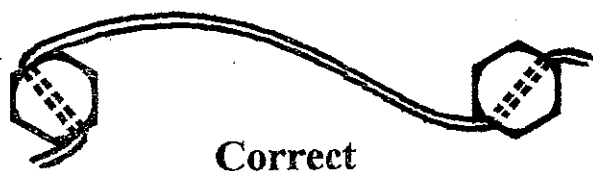

Figure 1 - Wire Locking Method
3. All speedo generators are to be secured to the adaptor plate using  $\frac{7}{16}$  in BSF x  $1\frac{1}{4}$  in long ECP 'R' grade set screws drilled with two  $\frac{5}{64}$  in diameter holes through the head for locking purposes. These are to be torque tightened and wire locked as shown in Figures 1 and 2.